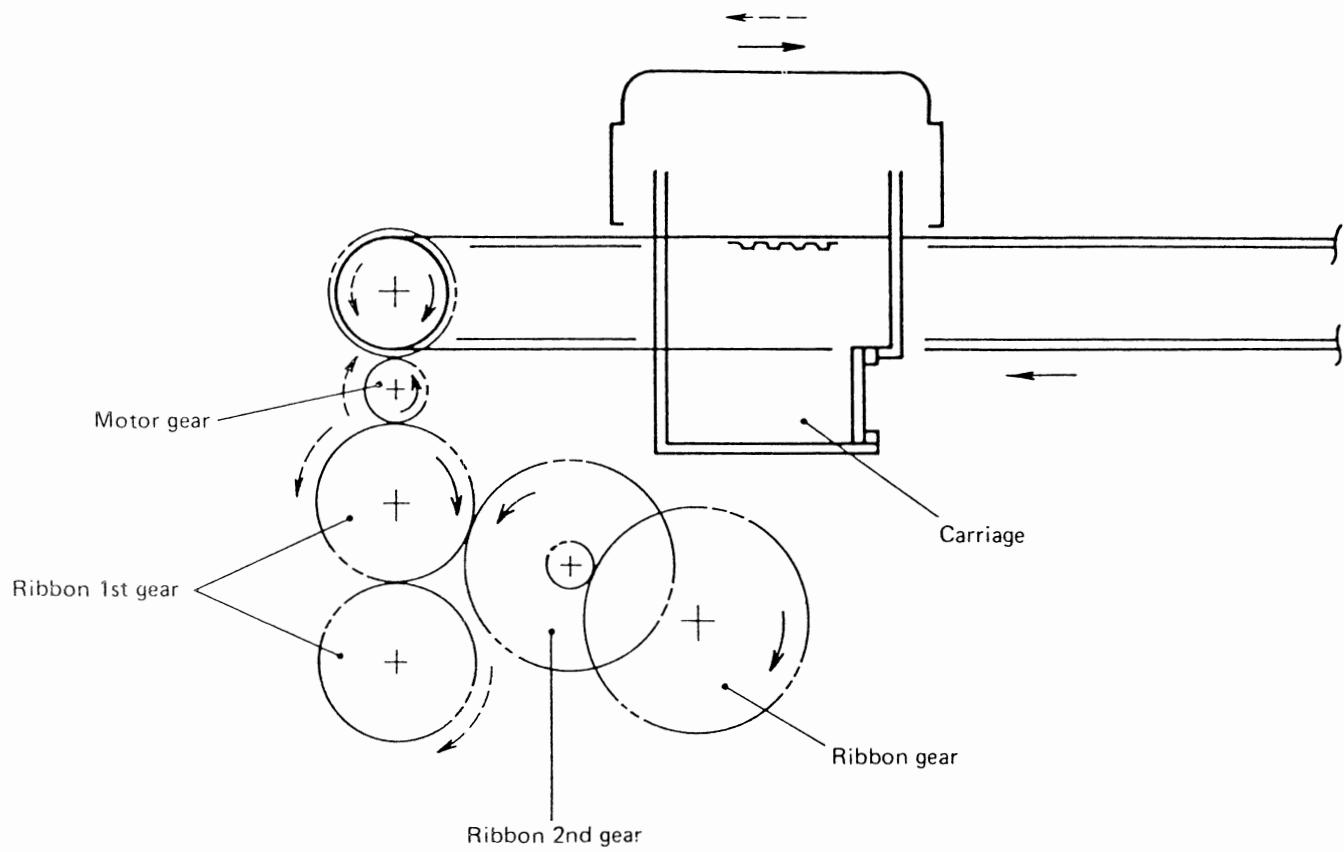

Fig. 3
#### **(1) Ribbon feed operation (see Fig. 3)**